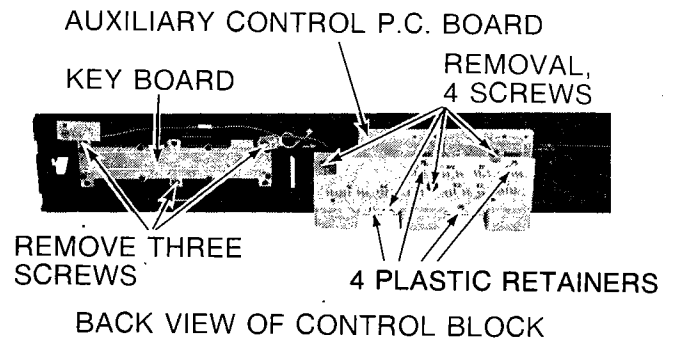

Fig. 14b — Auxiliary Control Board PW4200
3. Remove four (4) screws holding Auxiliary control board to control block (Panel), Fig. 14b/c.
4. Remove PW4200B from PW4200A by pressing together the ends of four (4) plastic retainers (Fig. 14b).
2. Remove three (3) screws (Fig. 14b).